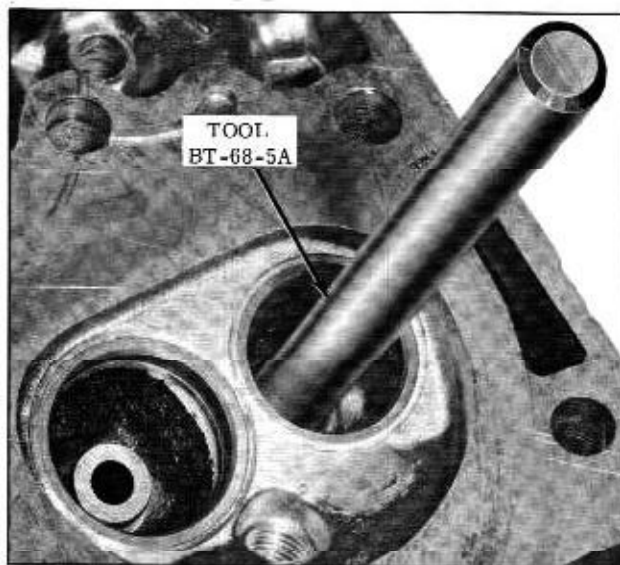

Fig. 8-19 Removing Valve Guide
1. Support cylinder head and drive out valve guide, using Tool BT-68-5A. (Fig. 8-19)